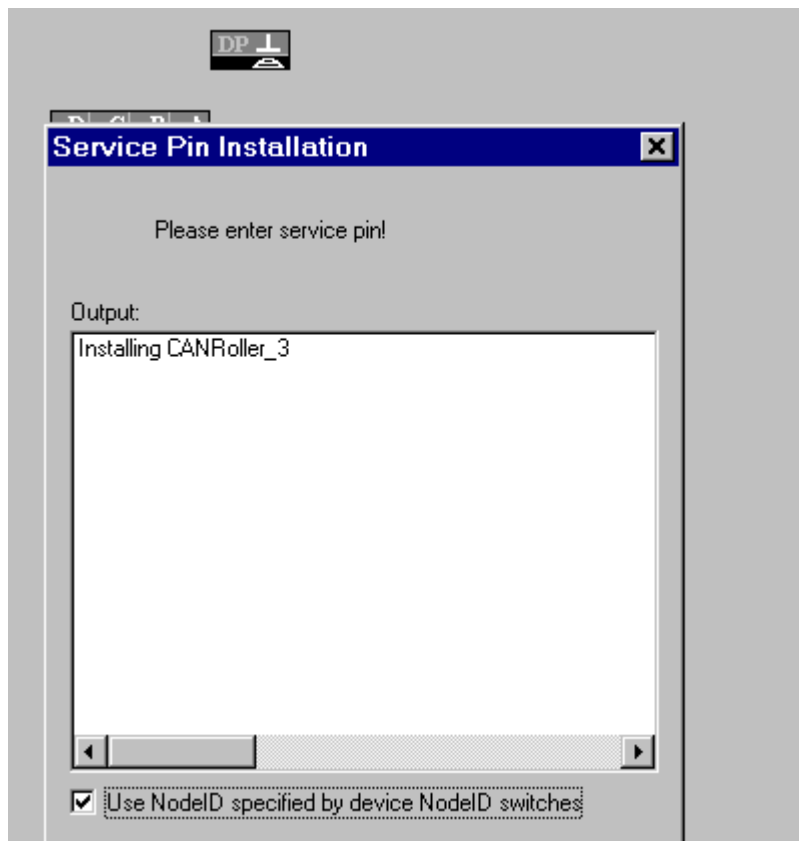

Fig. 5.12
- Click on this project module - the **Service Pin Installation** dialog box is displayed as shown in Fig. 5.12.